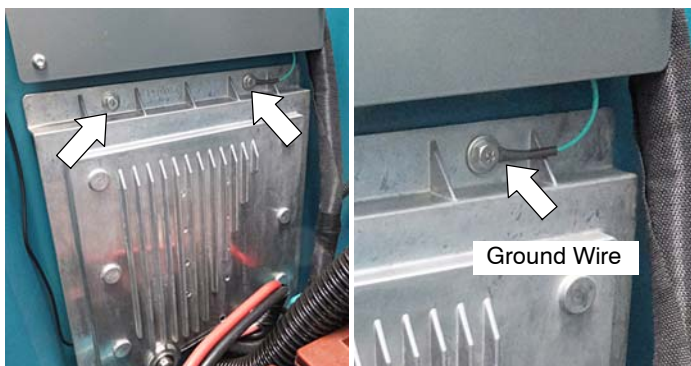

Fig. 12
- Carefully lift panel into position and re-fasten. Make sure to reconnect the ground wire to panel (Figure 12).